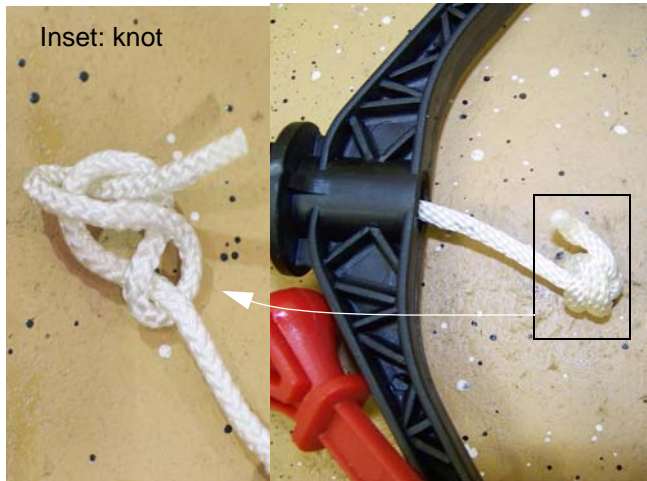

Figure 6.5
7. Install the handle and handle insert on the loose end of the rope, again using a double half-hitch. See Figure 6.5.